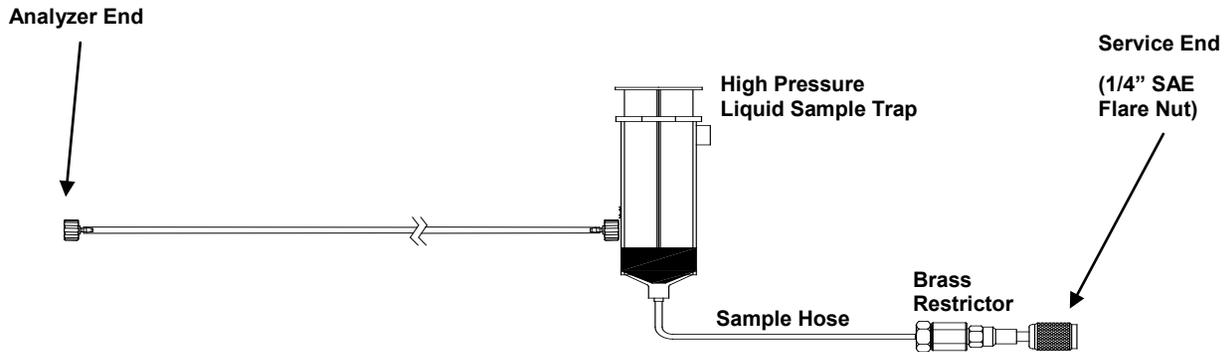

Figure 3-3. High Side Sample Hose Configuration
The 6.5 foot (2 meter) high side sample hose configuration is constructed of a polyurethane tube with an oil reservoir. A brass flow restrictor acts to transform liquid refrigerant to vapor at the sample connection point while the oil trap syringe collects oil and provides a means of expulsion after the test is complete. The maximum pressure is 500 psig. The syringe is provided with a magnet for attaching it to the tank. It also is provided with an instrument inlet port mating connector on one end and a 1/4" SAE female flare coupling nut on the service end. Refer to Figure 3-3.
1. Inspect the high-pressure liquid sampling trap assembly and ensure that the plunger on the oil trap syringe is completely depressed. Assemble the high side liquid sample hose as shown in Figure 3-3 on page 6.